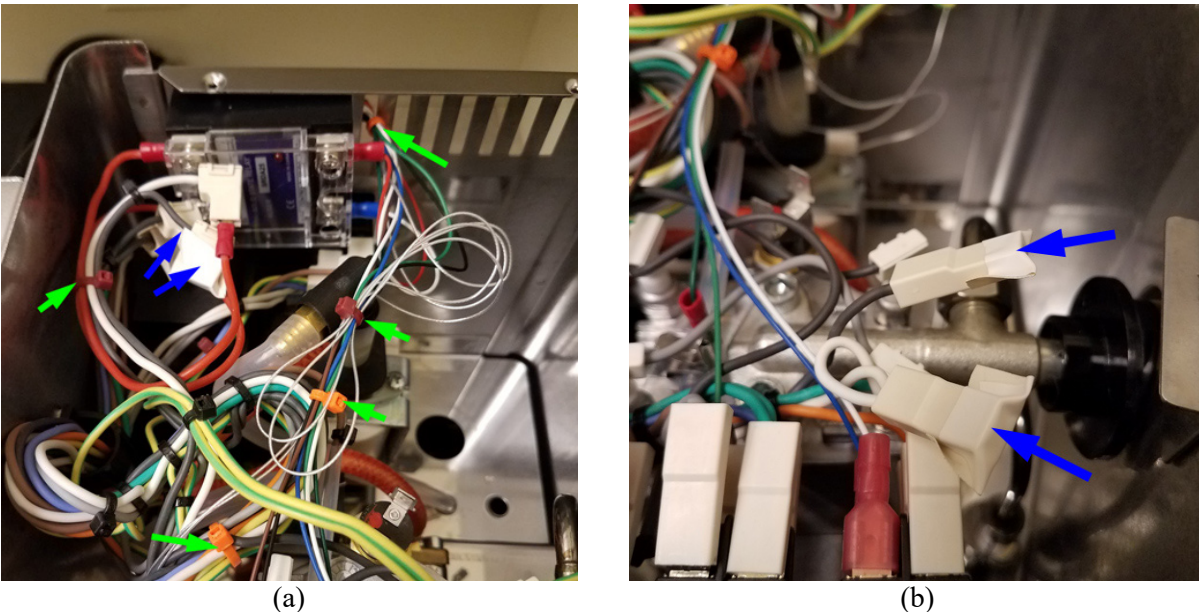

Figure 36. (a) Organize all wires and (b) cover any exposed connectors with electrical tape.
- 7) **Tying up the wires and covering the open connectors with electrical tape.** Organize all wires inside the espresso machine and use cable ties to bundle them together (as indicated by green arrows in Figure 36(a)). Cut off the tails of the cable ties. Cover the open connectors (including connectors removed from thermostats and the steam button) use electrical tape as indicated by blue arrows in Figure 36 (a) and (b).